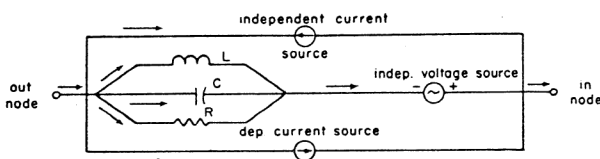

Figure 1. Generalized Circuit Branch
2. Number the circuit nodes from one to n where the n^{th} or last node is the output of the circuit. Node zero (0) is the reference node, and the output of the circuit is taken between the n^{th} node and the node 0.
3. Number the branches from one to b where b is the last branch. Each branch may include all or part of the generalized branch shown in Figure 1. A branch may also include more than one like parallel element such as several parallel resistors. An independent voltage source must include some kind of passive element in series with it within that total branch.